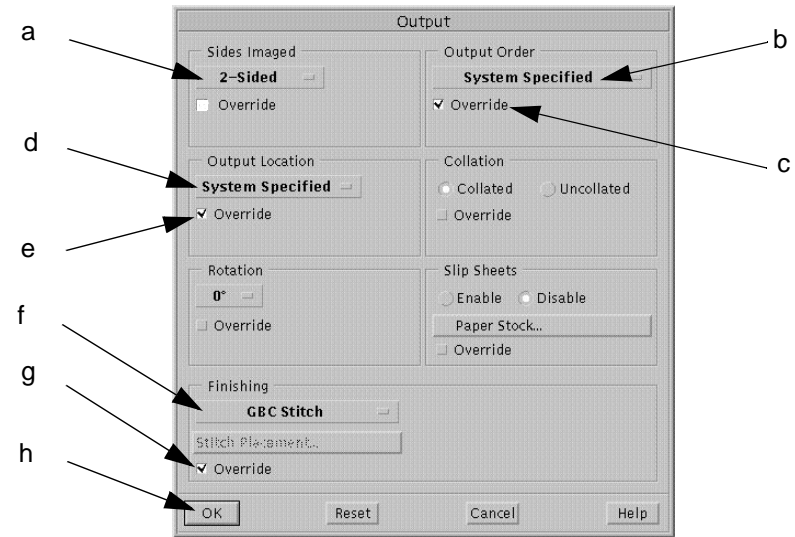

Figure 6-29 The Print Queue Output Window (SBM Setup)
7. Refer to Figure 6-29 above and fill in or choose the fields, as specified below, for an SBM 2-sided Punch Queue output.